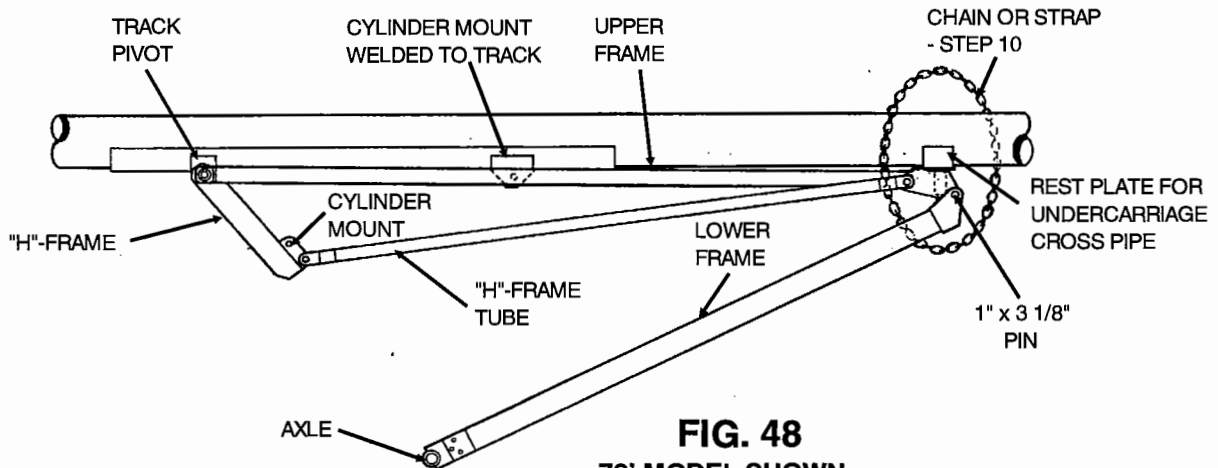

FIG. 48
Step 10. Wrap a chain or heavy duty strap around the auger tube and the undercarriage frame. See Fig. 48. The chain or strap must be **TIGHT** to keep the undercarriage from opening when the tube is raised.